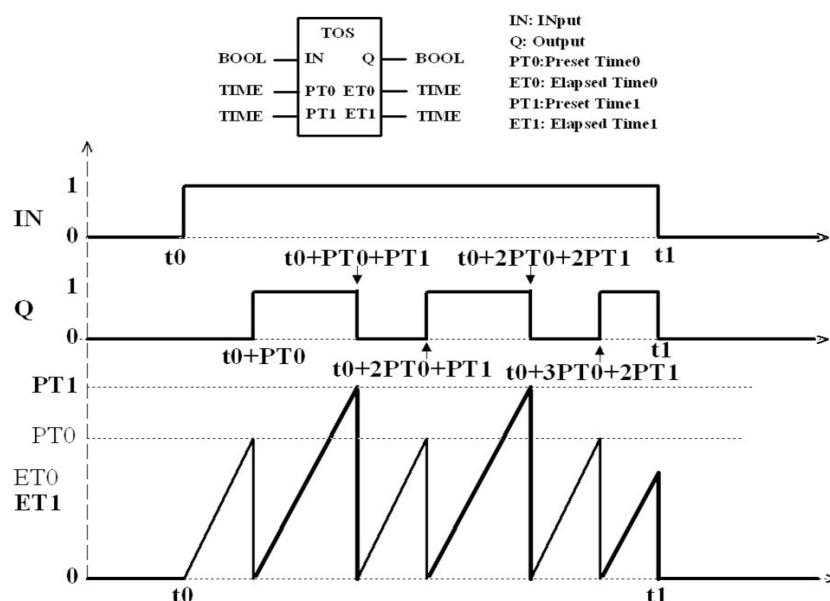

Figure 3: The symbol and timing diagram of the oscillator timer (TOS)
The symbol and timing diagram of the oscillator timer (TOS) are both shown in Figure 3. PT0 (respectively PT1) defines the false (OFF) time (respectively true (ON) time) of the pulse. As the input signal IN goes and remains true (ON – 1), the OFF timing function is started and, therefore, the elapsed time ET0 is increased. When the elapsed time ET0 reaches the time specified by the preset time input PT0, the output Q goes true (ON – 1) and ET0 is cleared. At the same time, as long as the input signal IN remains true (ON – 1), the ON timing function is started and, therefore, the elapsed time ET1 is increased. When the